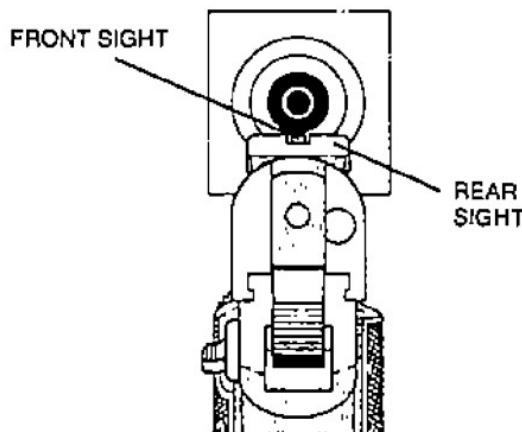

FIGURE 5—AIMING
3. Grasp pistol by stock and, keeping your finger outside the trigger guard, take aim. Aim by aligning target with front and rear sights. (See Figure 5). After identifying your target and seeing that it is clear to shoot, focus on the front sight. Be sure you have a safe backstop. **THINK!** What you will HIT if you MISS the target.